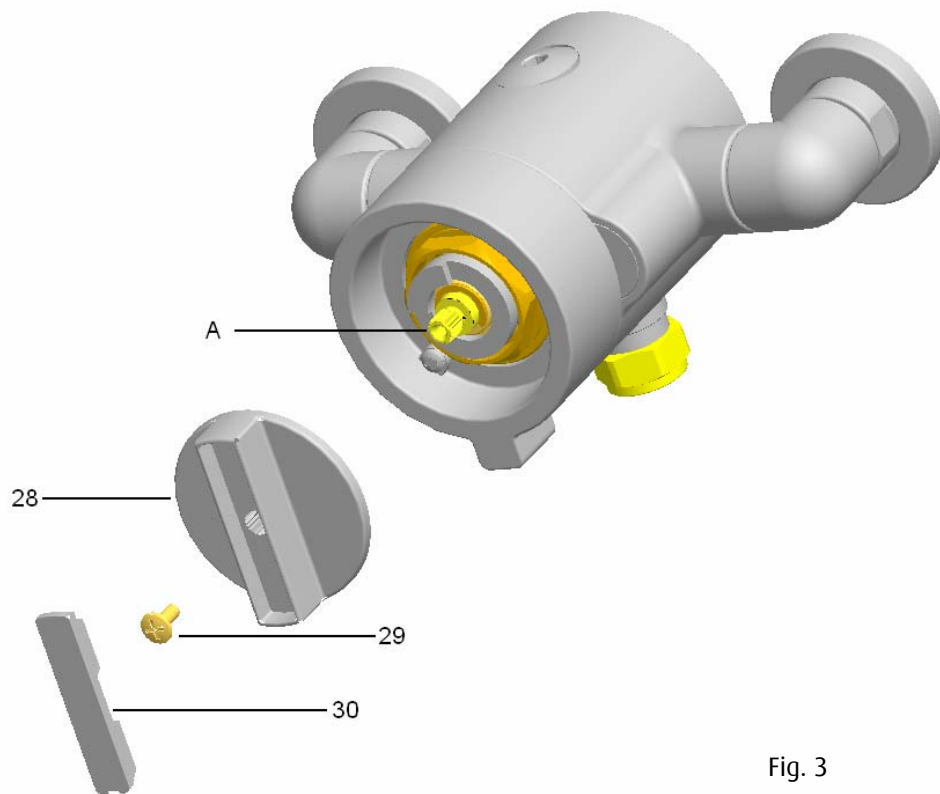

Fig. 3
5.4 See Fig. 3 below, remove the temperature control handle (28) by removing the cap (30), unscrewing the screw (29) and pulling the handle off the spindle.